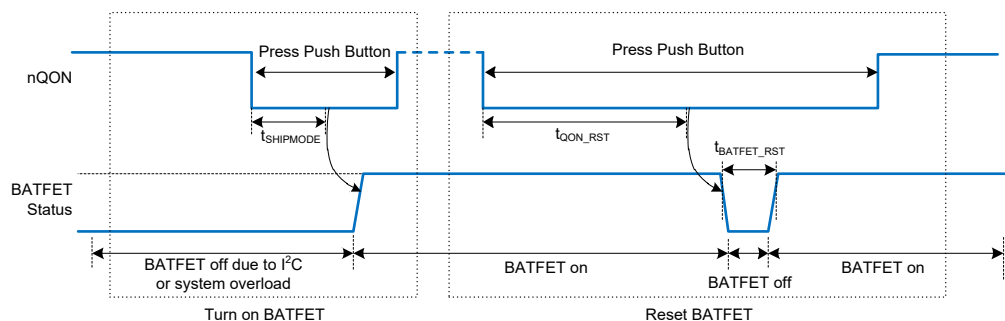

Figure 10. nQON Enable and Reset BATFET Timing
1. Enable BATFET: Applying an nQON logic high to low transition with longer than  $t_{SHIPMODE}$  deglitch time (negative pulse) turns on BATFET to exit ship mode (Figure 10 left). HIZ is also enabled (EN\_HIZ = 1) when exiting shipping mode. After exiting shipping mode, the host can disable HIZ (EN\_HIZ = 0). Boost cannot be enabled (OTG\_CONFIG = 1) until HIZ is disabled.
2. Reset BATFET: By applying a logic low for a duration of at least  $t_{QON\_RST}$  to nQON pin while VBUS is not powered and BATFET is allowed to turn on (BATFET\_DIS bit = 0), the BATFET turns off for  $t_{BATFET\_RST}$  and then it is re-enabled resulting in a system power-on reset (Figure 10 right). This function can be disabled by clearing BATFET\_RST\_EN bit.